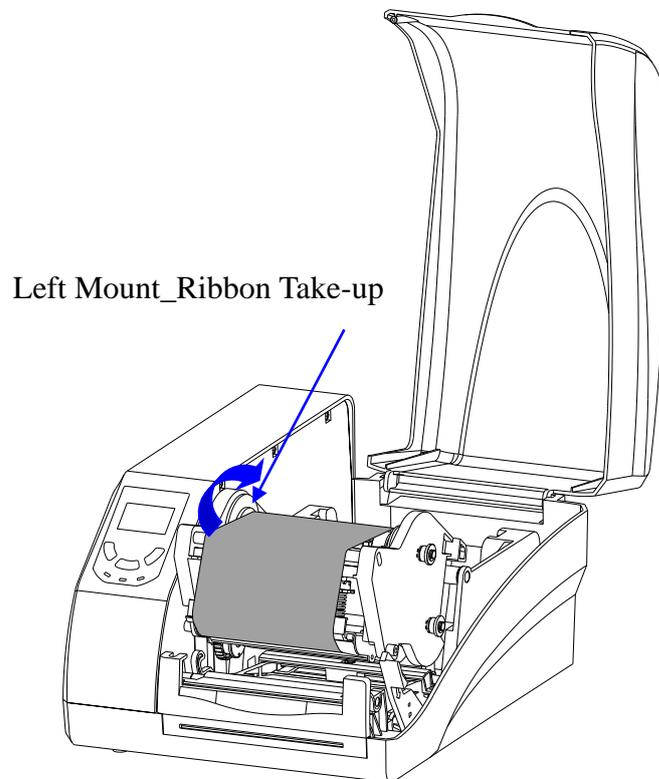

Figure 2-10 Ribbon Roll loaded
8. Turn the Left Mount of Ribbon Take-up to ensure the ribbon is tight and smooth, see Figure 2-10.